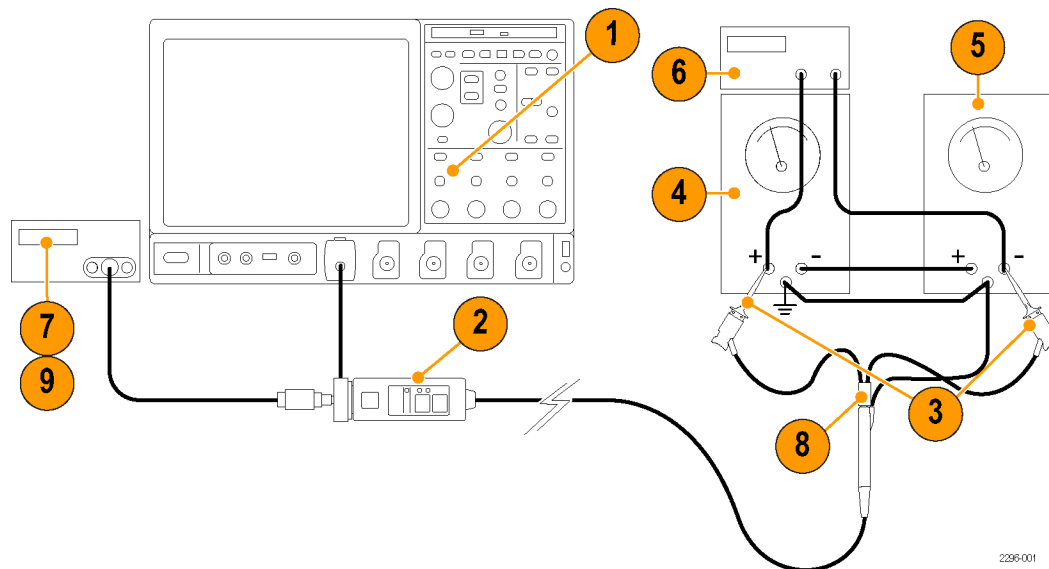

Figure 9: Setup for differential-mode tests
3. Connect the probe to the DC sources as shown. (See Figure 9.) Observe proper polarity: red to (+), black to (-).